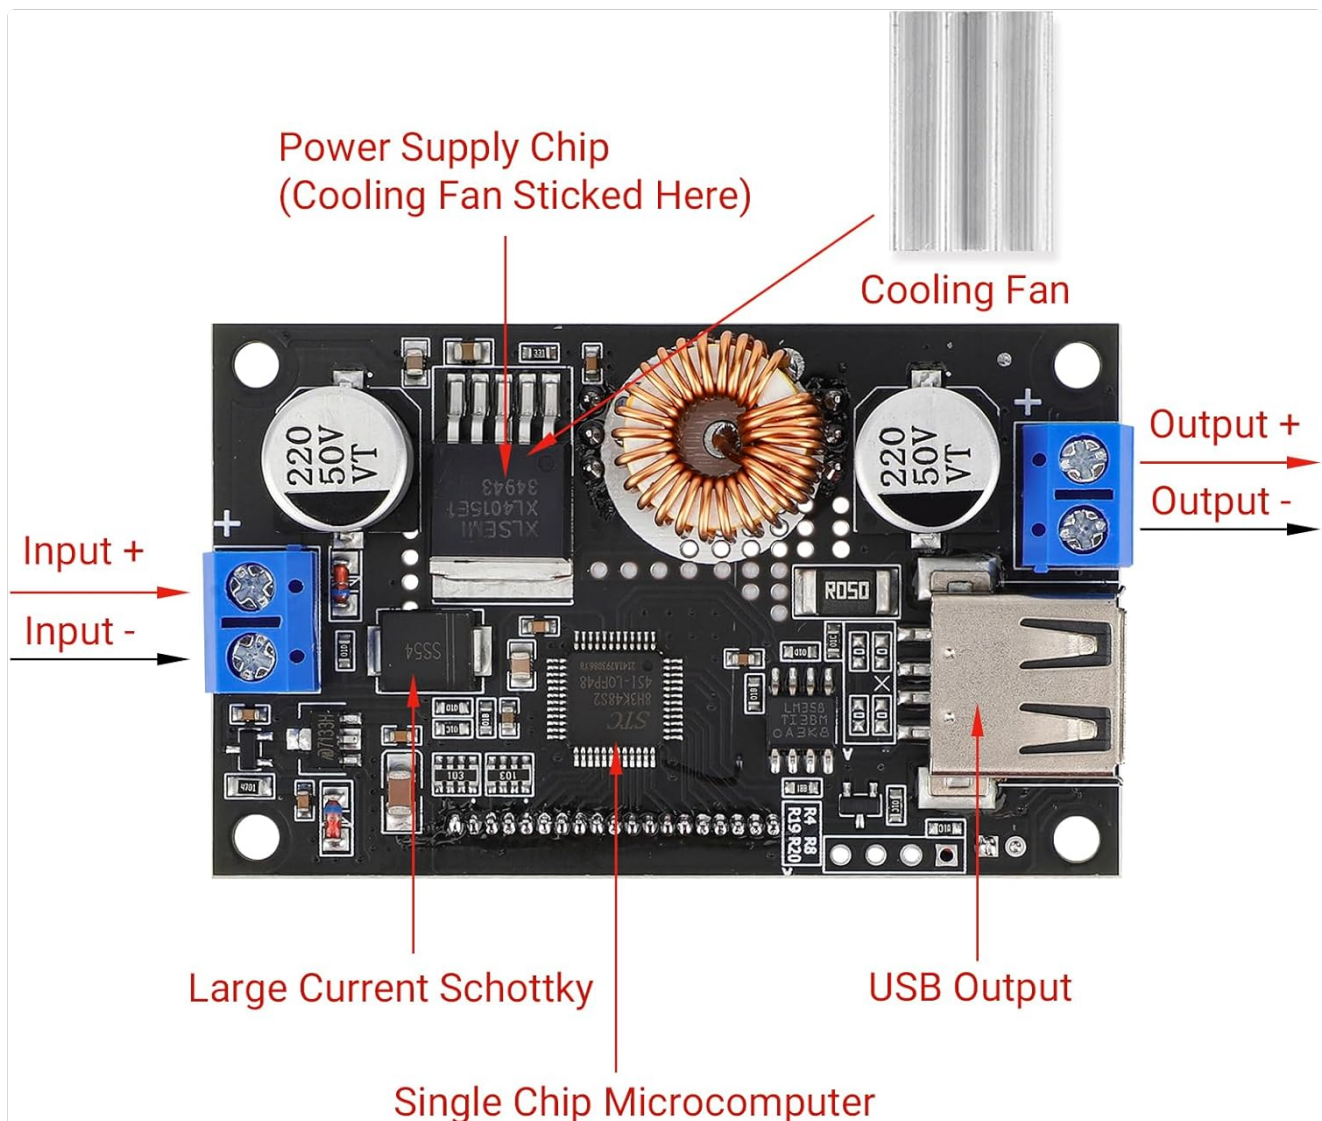

Figure 2.2: Rear View with Internal Components
- **Heat Dissipation:** When operating at currents higher than 3A or power exceeding 35W, it is crucial to enhance heat dissipation. Consider attaching a cooling fan to the designated area on the power supply chip (refer to Figure 2.2) or using a heatsink.